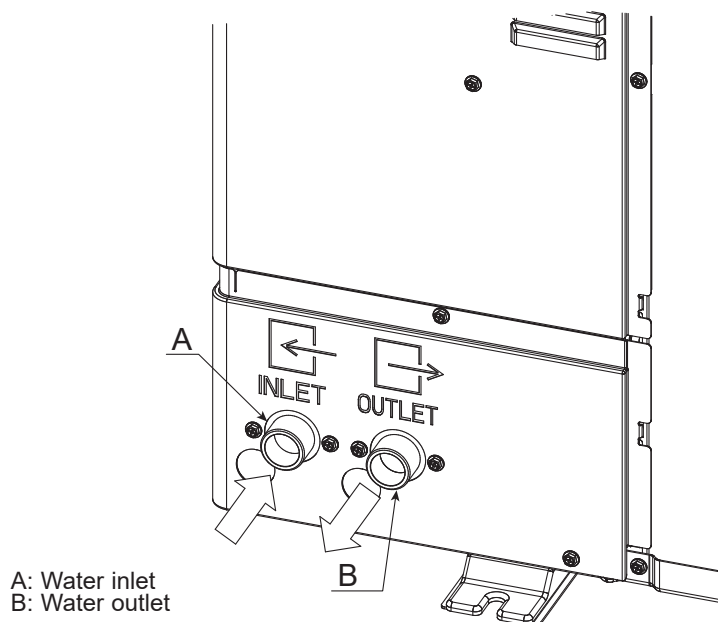

Fig. 2-8
#### 2-7-1. Water piping connection (Fig. 2-8)
- Inlet and outlet pipes position is shown on the Fig. 2-8.